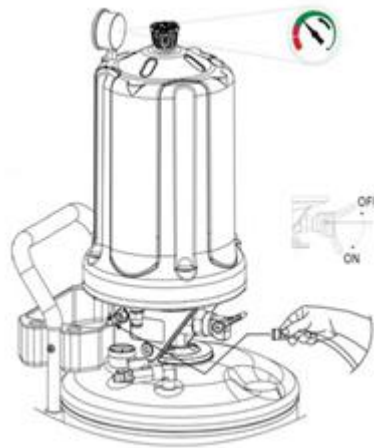

FIG.1
2. Make sure all valves are close. (FIG.1)connect air source with air inlet(Part No.32HC-0801) , turn on air valve for vacuum extraction, When finger reaching to the MAX area on the vacuum gauge, turn off air inlet valve .